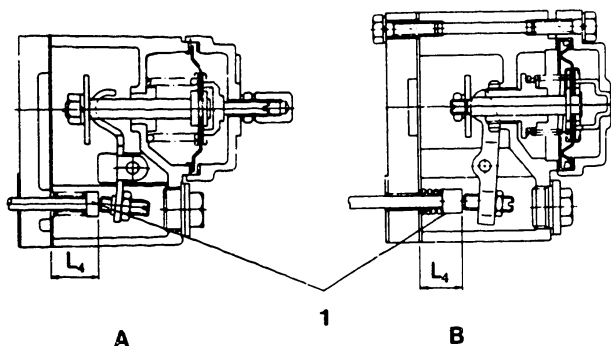

Fig. 163 Checking pushrod protrusion
- 3) In this condition, use calipers to measure the protrusion (dimension L) of pushrod B from the end face of the spacer. If dimension L is not within the specified range, replace pushrod B so that L is as specified. (Fig. 163)